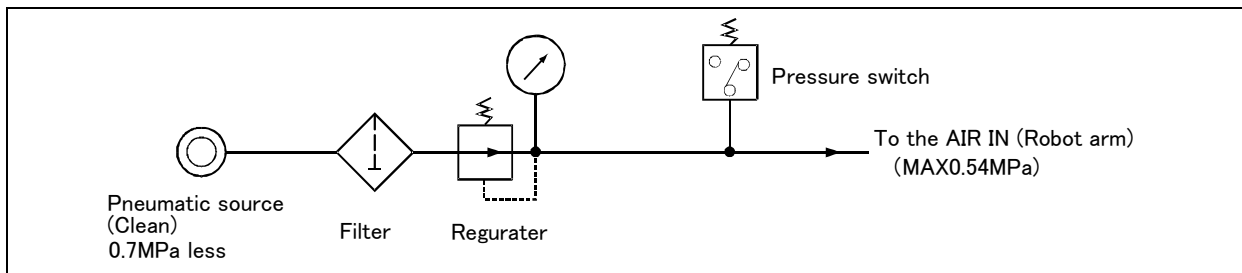

Fig.2-32 : Air supply circuit example for the hand
Fig. 2-32 shows an example of pneumatic supply circuitry for the hand.
- (1) Place diodes parallel to the solenoid coil.
- (2) When the factory pneumatic pressure drops, as a result of the hand clamp strength weakening, there can be damage to the work. To prevent it, install a pressure switch to the source of the air as shown in Fig. 2-32 and use the circuit described so that the robot stops when pressure drops. Use a hand with a spring-pressure clamp, or a mechanical lock-type hand, that can be used in cases where the pressure switch becomes damaged.
- (3) The optional hand and solenoid valve are of an oilless type. If they are used, don't use any lubricator.
- (4) Supply clean air to the vacuum generation valve when you use clean type robot.
- (5) If the air supply temperature (primary piping) used for the tool etc. is lower than ambient air temperature, the dew condensation may occur on the the coupling or the hose surface.